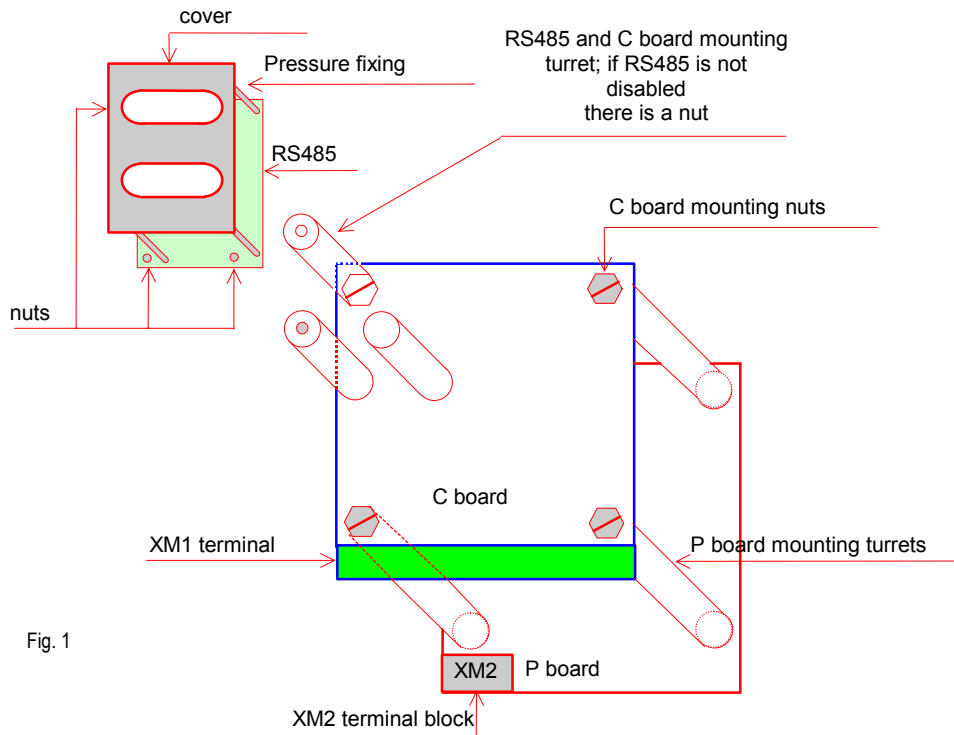

Fig. 1
For these sizes, insulated base thyristors are used; to replace these thyristors, operate according to the following sequence (refer to Fig. 1 and to the bridges layout in the appendix):
- Remove C board acting on the four attachment nuts (if SPDS1 option is installed, remove the protection cover forcing on the pressure fixing points and remove the board unscrewing the three nuts - see par 4.2.1 figure 1).